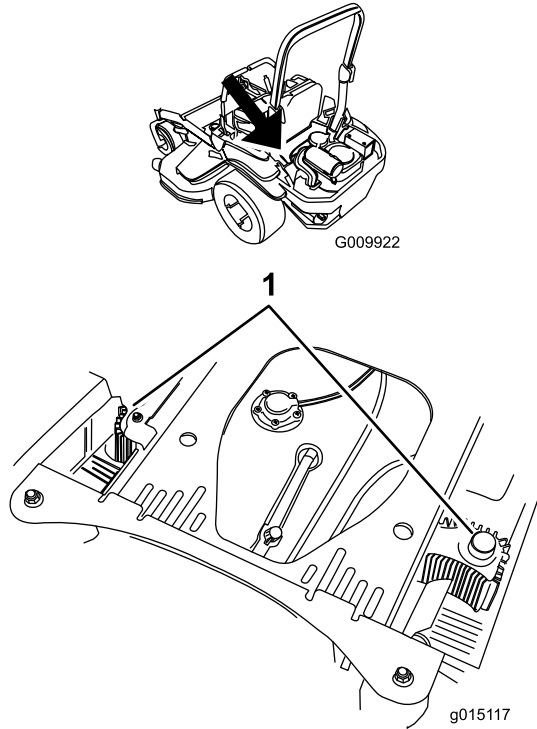

Figure 70
4. Clean the debris and grass from the hydraulic units (Figure 70).